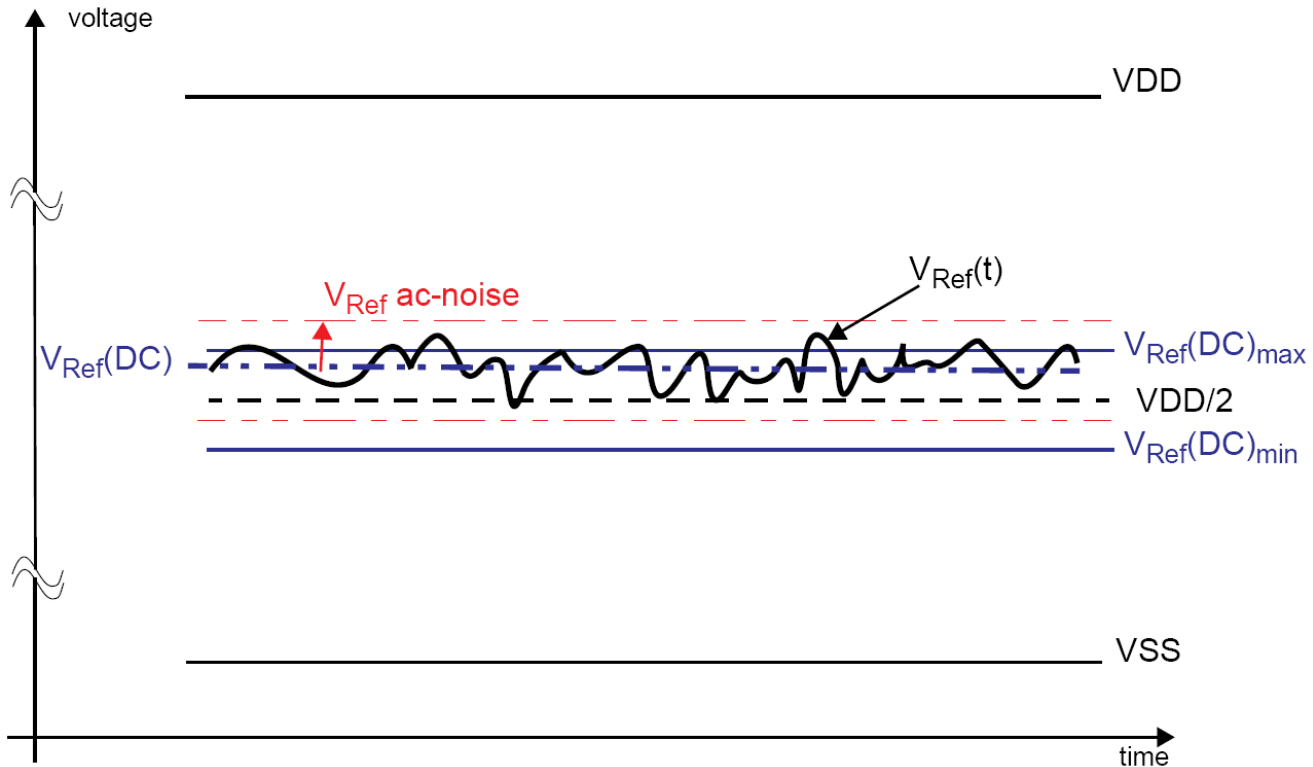

Figure 7.1 - Illustration of VRef(DC) tolerance and VRef ac-noise limits
The dc-tolerance limits and ac-noise limits for the reference voltages VRefCA and VRefDQ are illustrated in Figure 7.1. It shows a valid reference voltage VRef(t) as a function of time. (VRef stands for VRefCA and VRefDQ likewise). VDD stands for VDD2 for VRefCA and VDDQ for VRefDQ. VRef(DC) is the linear average of VRef(t) over a very long period of time (e.g. 1 sec) and is specified as a fraction of the linear average of VDDQ or VDD2 also over a very long period of time (e.g. 1 sec). This average has to meet the min/max requirements in Table 24. Furthermore VRef(t) may temporarily deviate from VRef(DC) by no more than $\pm 1\%$ VDD. Vref(t) cannot track noise on VDDQ or VDD2 if this would send Vref outside these specifications
The voltage levels for setup and hold time measurements VIH(AC), VIH(DC), VIL(AC) and VIL(DC) are dependent on VRef. “VRef “ shall be understood as VRef(DC), as defined in Figure 7.1.